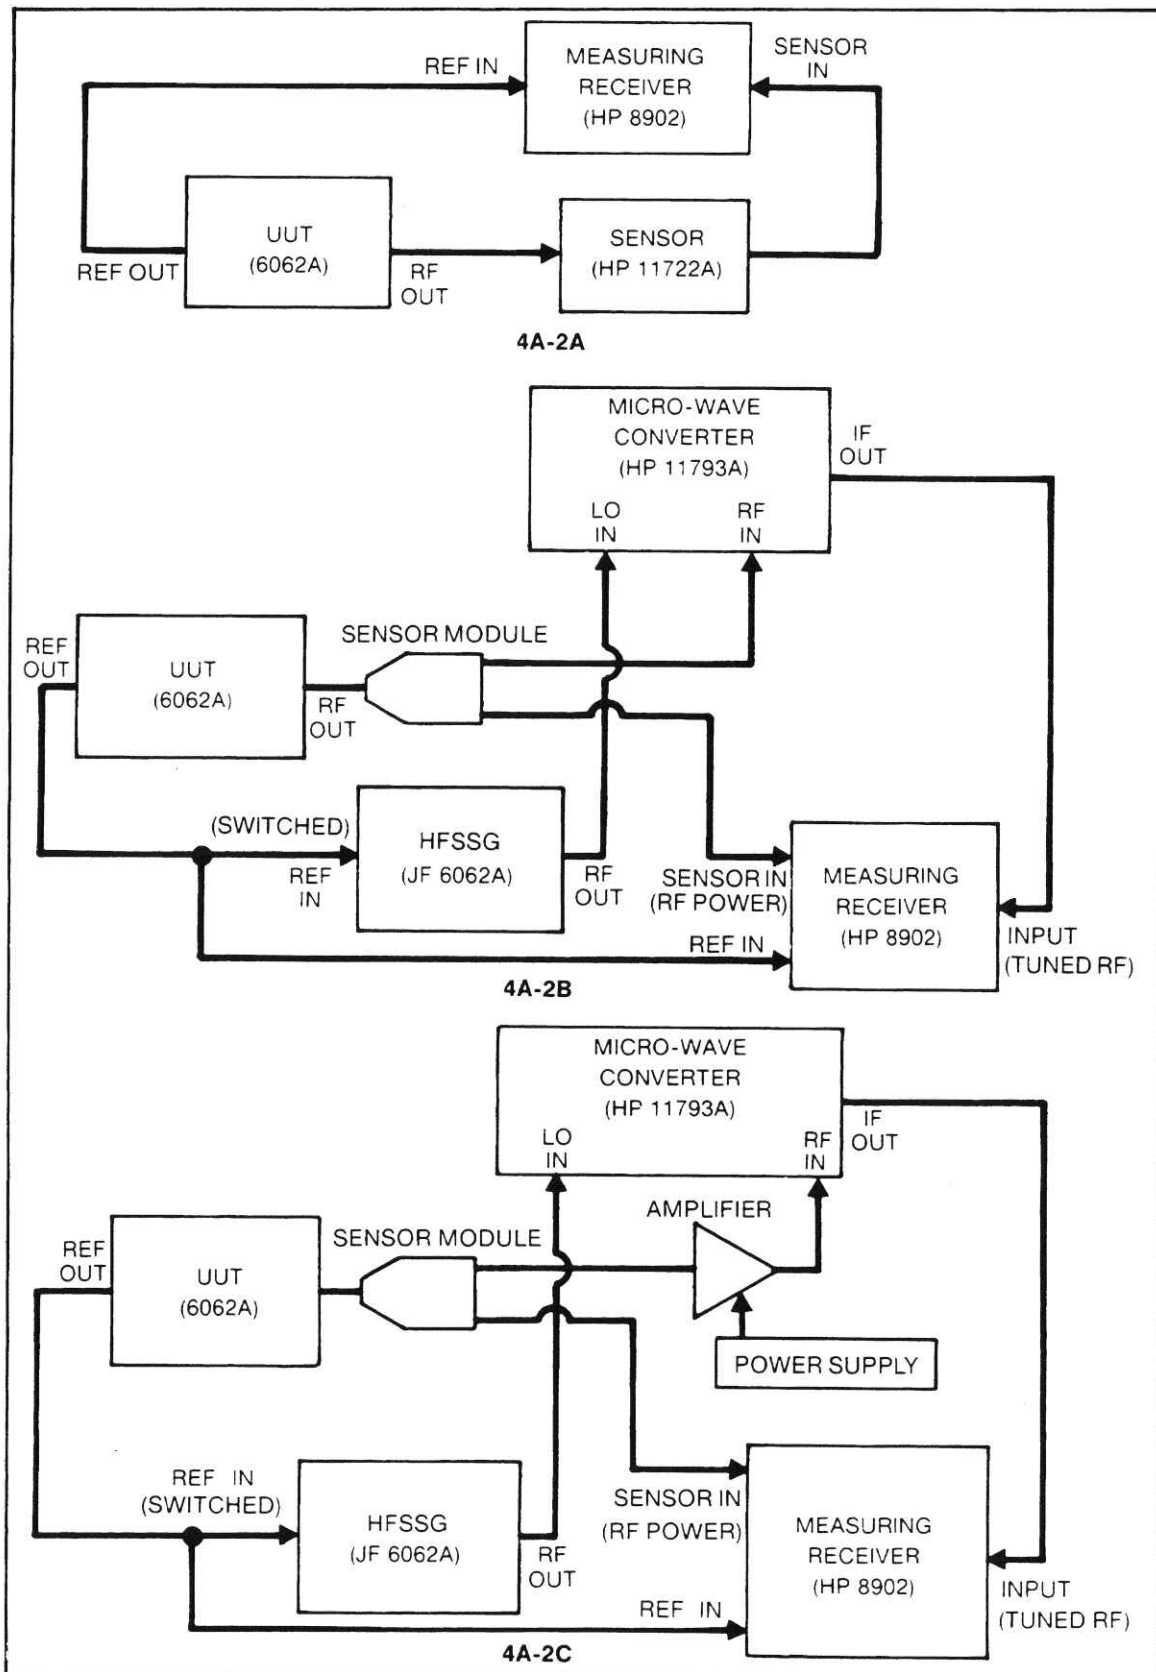

Figure 4A-2. Alternate-Level Accuracy Test Equipment Setup
- b. Connect all instruments as shown in Figure 4A-2A.
- a. Set up the equipment as shown in Figure 4A-2B.
- i. Observe the displayed reading at the -84.6 dBm level and note this as the reference. Disconnect the RF cable leading from the UUT to the Microwave Converter RF-input and insert the Level Amplifier (refer to Figure 4A-2C).